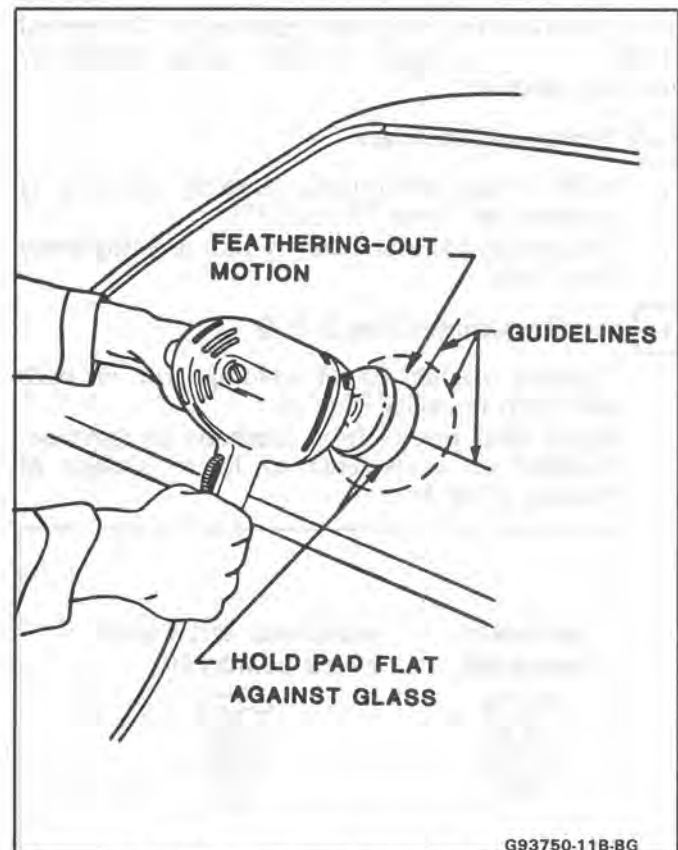

Fig. 1-Minor Glass Scratch Removal
3. Draw a circle around scratches on opposite side of glass with a wax marking pencil or crayon. Draw other lines directly behind scratches to serve as guides in locating scratch during polishing (Fig. 1).
6. Using moderate, but steady, pressure, hold pad flat against scratched area of glass, and with a feathering-out motion, polish affected area as shown in Figure 1. Avoid heavy pressure. It does not speed up operation and may cause overheating of glass.